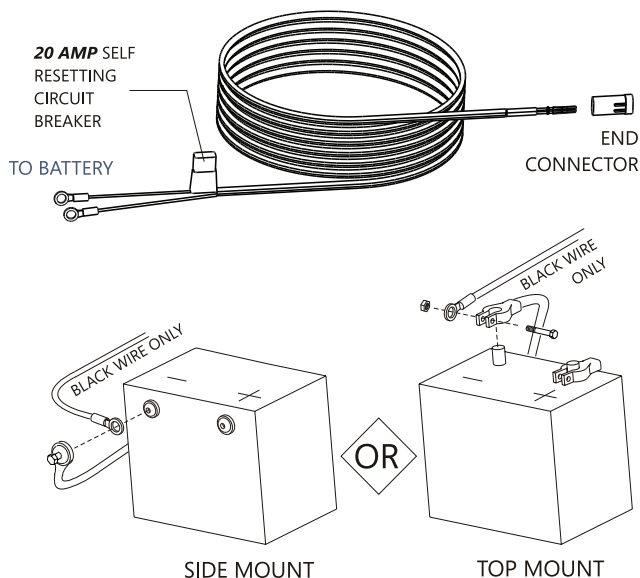

Figure 4-1
2. Route the wire harness beginning at the battery. Attach the black wire to the negative terminal on the battery. *See Figure 4-1.*